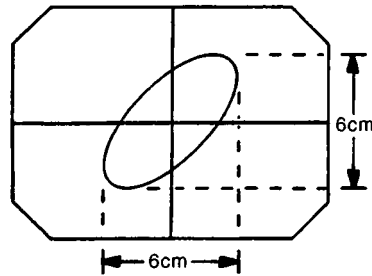

Figure 3-36
9. Adjust the 1 kilohm pot on the Trainer, and the CHANNEL A VOLTS/DIV range switch and its VARIABLE control on the scope to adjust the size and angle of the pattern until it is 6 cm wide and 6 cm high, as shown in Figure 3-36.